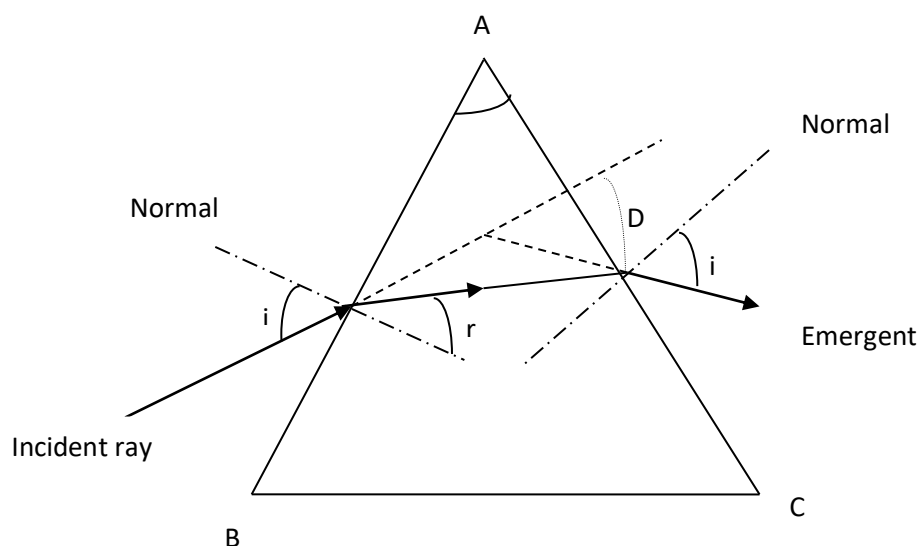

Figure15.1 Light incident on glass prism
1. Draw the outline of the prism on a white paper fixed on a drawing board and label the edges ABC as in the figure 15.1